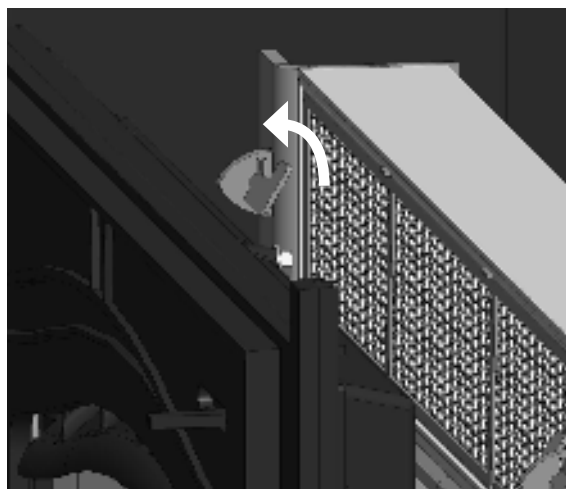

Figure 5.10. Rotate the combustor retainer clips forward.
4. Remove combustor retaining clips from front left and right sides of the catalyst. Rotate each member 90° and slide towards the center of the firebox. Place both clips in a safe location. Fig 5.10 & Fig 5.11.